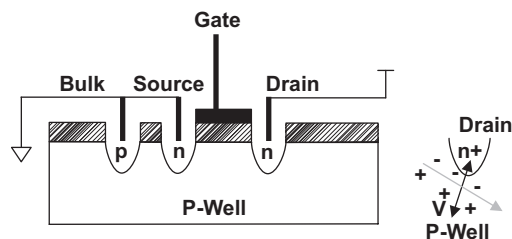

Figure 3. Configuration of Inactive nmos Transistor in an Inverter When pmos is Driving High
- If Data is high and nData is low, then the drain node where the transistor passes through is biased high while the p-well is biased to ground. Figure 3 shows the voltage difference that can capture some of the separated negative charge into the drain of the transistor.